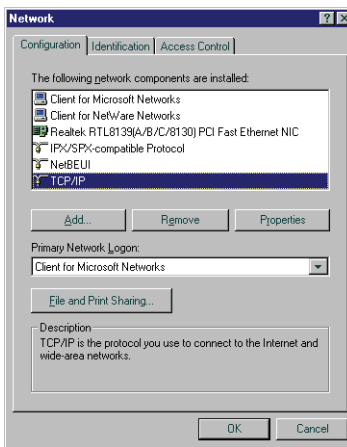

Figure 8. Network Screen
1. Connect your PC to the TDIM module as shown in Figure 7 above. Go to your PC’s Control Panel folder and double-click the ‘Network’ icon to display the Network screen (Figure 8)